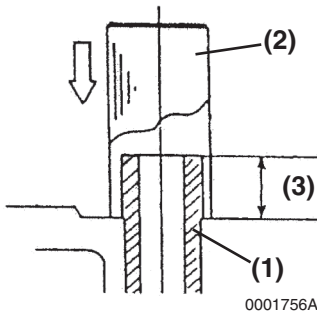

Figure 6-27
3. Finish installing the valve guides (Figure 6-27, (1)) into the cylinder head to the proper height (Figure 6-27, (3)) using the valve guide installation tool (Figure 6-27, (2)). See Intake / Exhaust Valve and Guide on page 6-7.